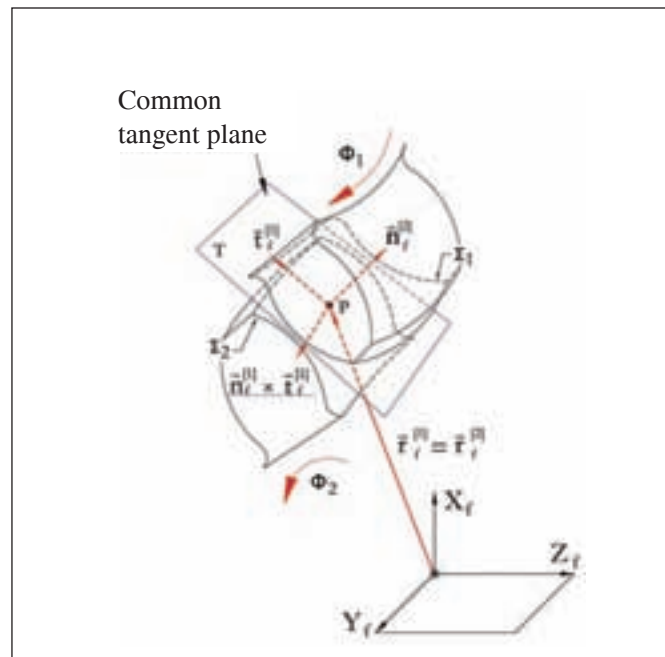

Figure 8—Tooth surface contact.
Geometrically, vector $\mathbf{n}_f^{[i]} \times \mathbf{t}_f^{[i]}$ and $\mathbf{t}_f^{[i]}$ ($i=1, 2$) are two orthogonal vectors that lie in the tangent planes of the pinion tooth surface Σ_1 ($i=1$) and gear tooth surface Σ_2 ($i=2$). When the two surfaces contact at point P, the tangent planes coincide and become a common tangent plane (Fig. 8). Considering the equations of meshing, Equations 7 or 8 generally yield five independent equations, and can be solved if the related Jacobian differs from zero (Ref. 8). Consequently, a series of contact points and the corresponding transmission errors can be obtained, which formulate the TCA output as the bearing contact patterns and the graph of transmission errors. The transmission error (TE) is defined as